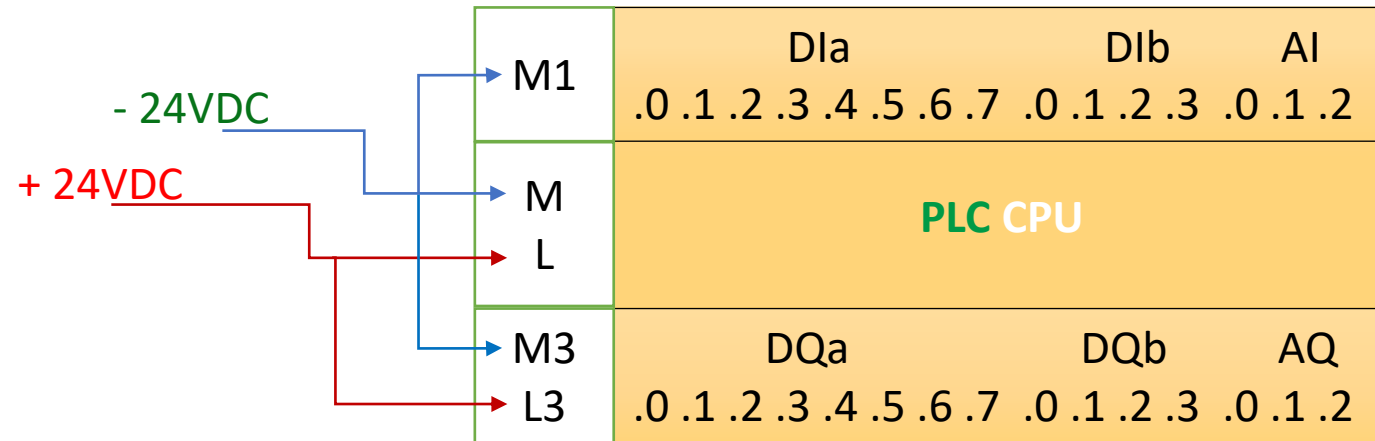

Figure 1.0: Basic architecture for Programmable Logic Controllers (PLC)
- Figure 1.0 shows the basic architecture for Programmable Logic Controllers (PLC) .